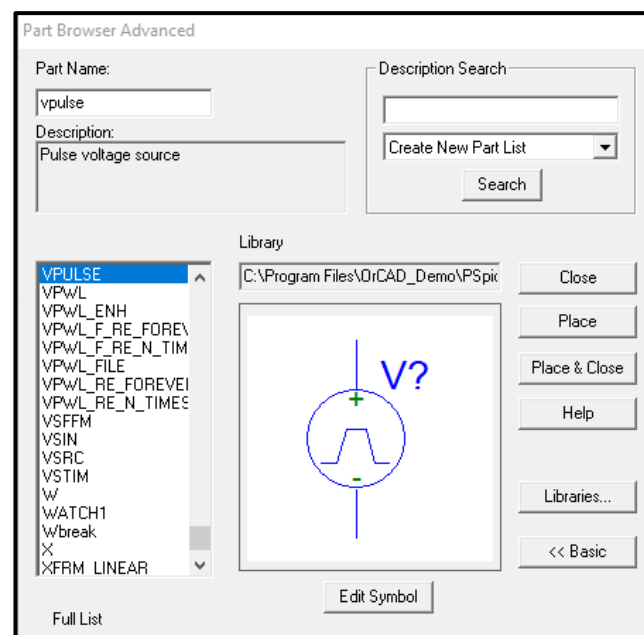

Figure.38
- The source name is “vpulse” and can be found on the components list as shown in figure.38.